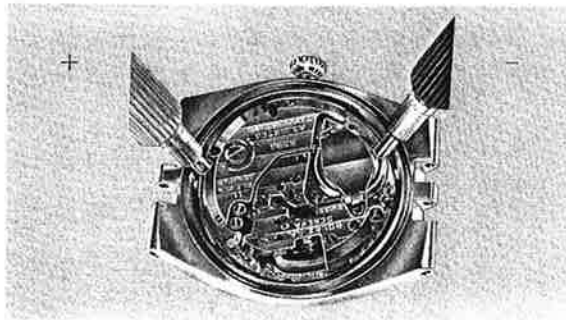

Fig. 6
- Place the positive voltmeter test lead terminal on the movement, for example in the notch of the casing clamp, and the negative terminal on the gilt side of the battery (Fig. 6). The voltage must be at least 1.55 volts. Slight excess voltage of the battery will be absorbed after the movement has been functioning for a few hours.